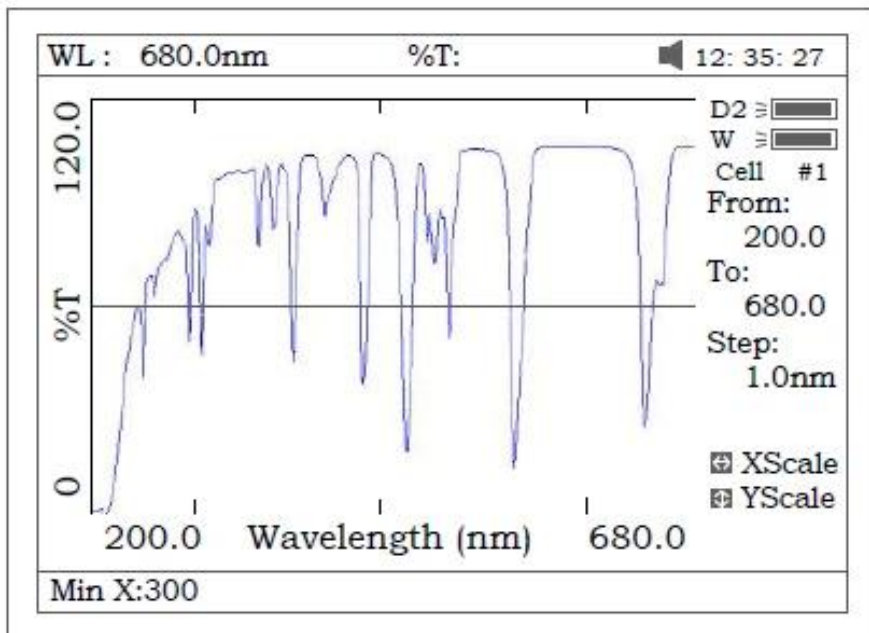
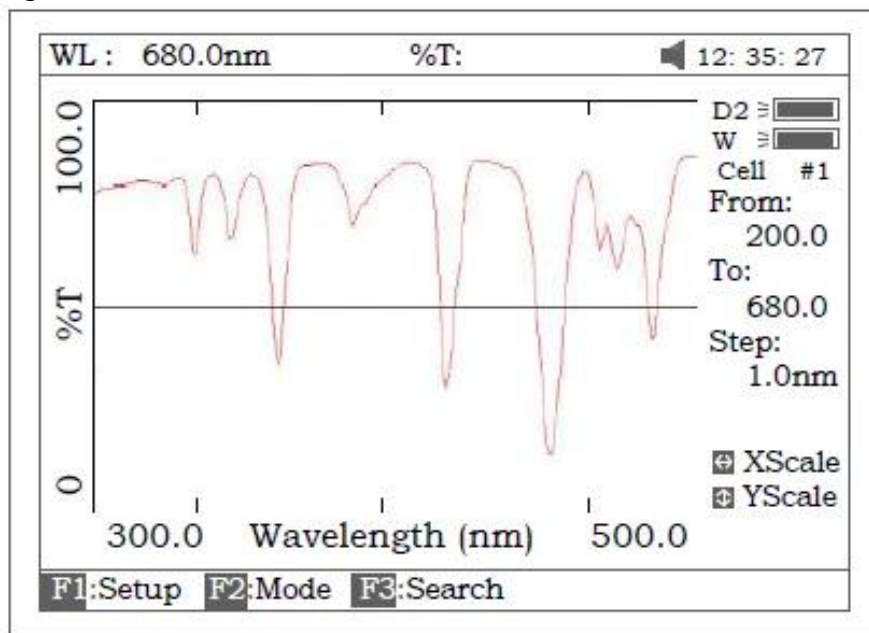

Figure 47
Figure 48
5. If you want to change the scale, press **【x】** to change "x" scale (Fig 47), input upper limit and lower limit by pressing the numeric keypad . To change "y" scale press **【^】** or **【v】** .After these inputs the instrument will redraw the curve (Fig 48).
Press **SAVE** to save the curve. Note: Load/Save requires the first scan display page (Fig. 48). Press ESC if in Search to return to the required page.